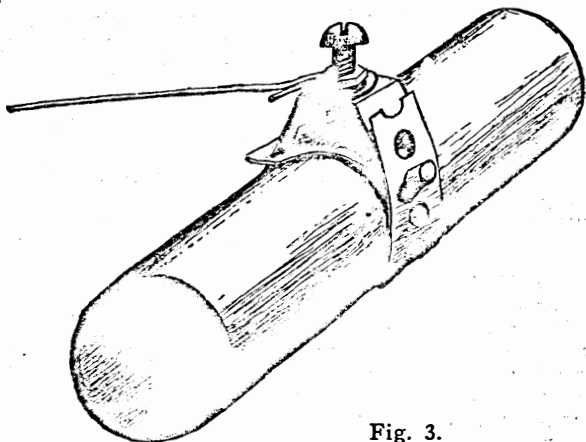

Fig. 3.
**THE GROUND:** The connection to the ground can best be made by providing a secure electrical contact to the water pipe, as near to the underground water pipe system as possible. For best operation it will be found that connection should be made to the pipe which leads from the water meter to the street, and this connection can be made most conveniently by means of a ground clamp as shown in Fig. 3. The connection from ground clamp to the receiver should be made with a sturdy copper conductor not smaller than No. 14 B. & S. gauge, run in as direct and short a line as possible.